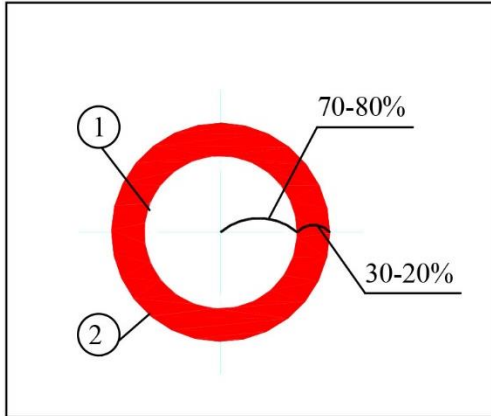

Figure 24
3.4.2. Using the aperture diaphragm (Figure 24)
- To recognize the aperture diaphragm, you could remove the eyepiece if necessary. (You also could insert in the center telescope) then looked into the viewing tube, you might see a field of view like the figure shown. The proportion could be changed by dialing the aperture adjustment lever according your need. (① is the image of the aperture diaphragm, ② is the edge of the objective)